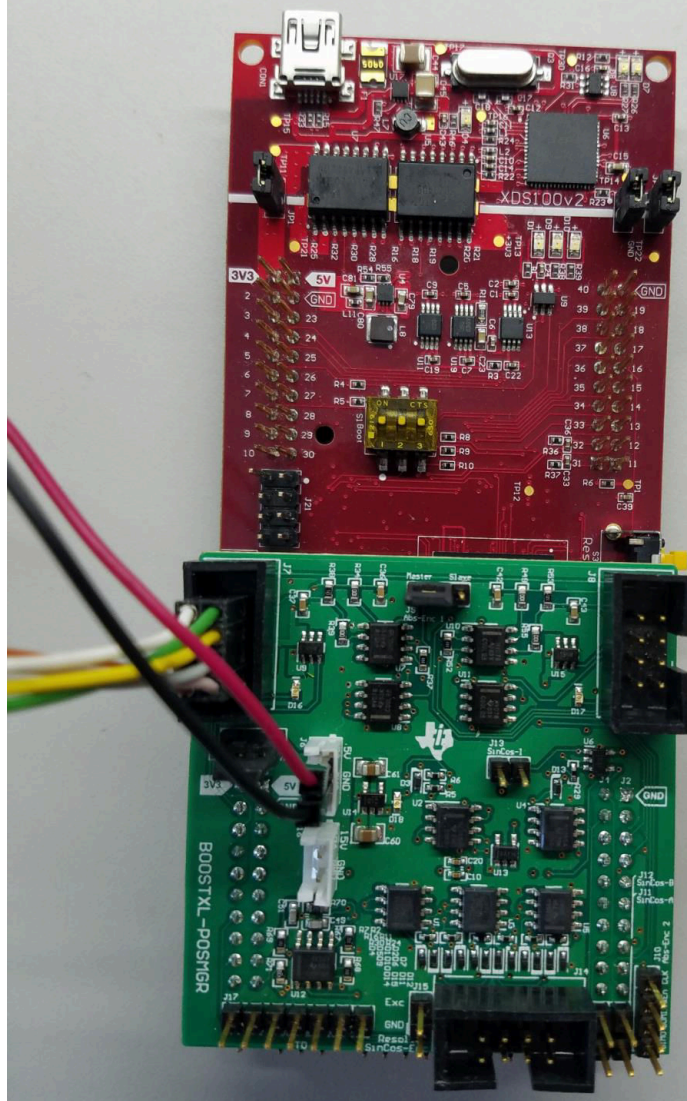

Figure 3-9. Position Manager BoosterPack Powered On and Connected to Tamagawa Encoder
- 5. Supply 5-V DC and GND to J6, as shown in Figure 3-1. The board should now look like Figure 3-9. LED D18 should be lit, which shows that the board has power.